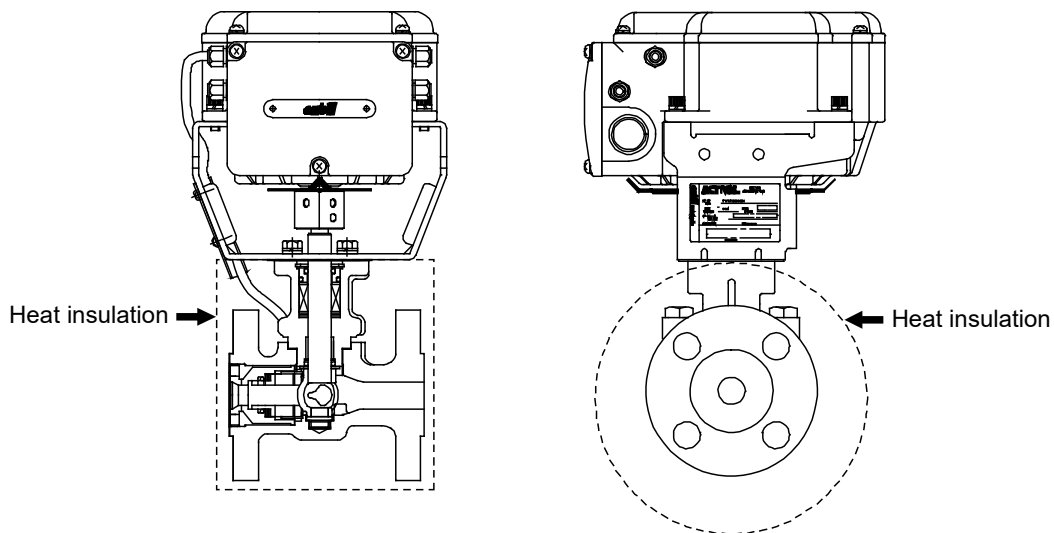

Figure 9. Heat insulating
- Apply heat insulation as illustrated by [] in Fig. 9.